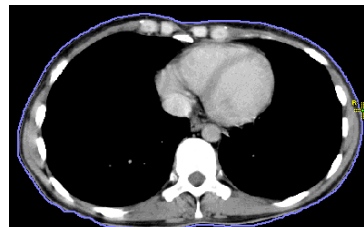

Figure 261 – Defining the right point of the bolus
- The cursor is now marked as **R**. Click the rightmost point of the bolus, as described above for the leftmost point (see Figure 261).